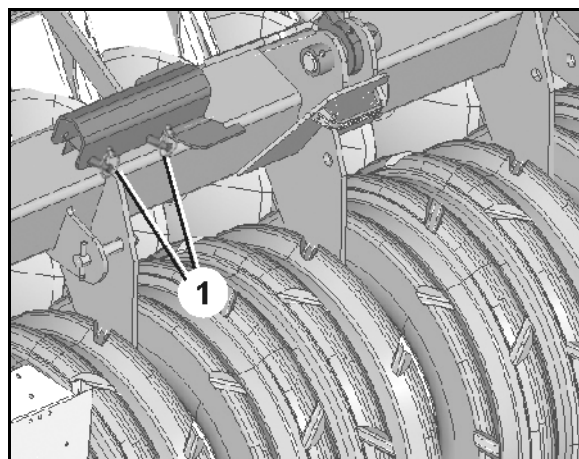

Fig. 32
2. After completing the work: remove the blocking device from the hydraulic cylinder and secure it with a pin and lynch pin (Fig. 32/1).